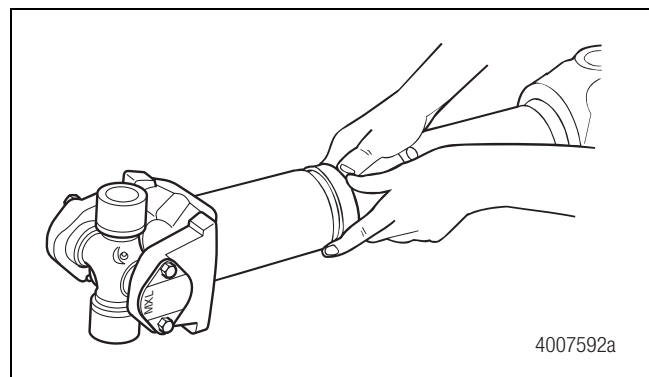

Figure 4.4
5. Snap the seal into the groove. Figure 4.4.